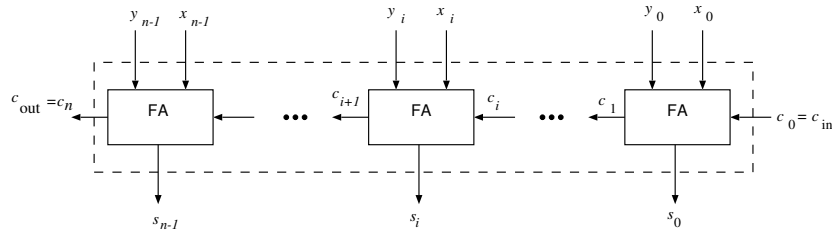

Figure 1: n -bit Carry-Ripple Adder (CRA) architecture.
1. Design the top-level architecture of the multi-format adder assuming as a base unit an 8-bit Carry-Ripple Adder (CRA), depicted in Figure 1, and indicating all the necessary logic to handle the carries at the different precisions.